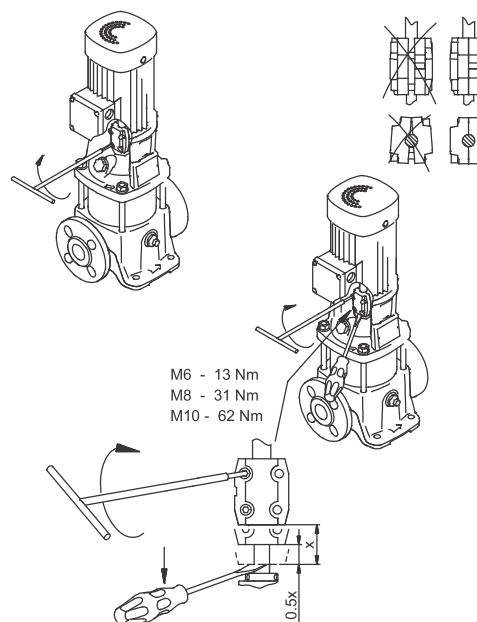

Fig. 17 Coupling adjustment CRT 2, 4, 8, and 16
3. Using a large screwdriver, raise the pump shaft by placing the tip of the screwdriver under the coupling and carefully raising the coupling to its highest point. See fig. 17.